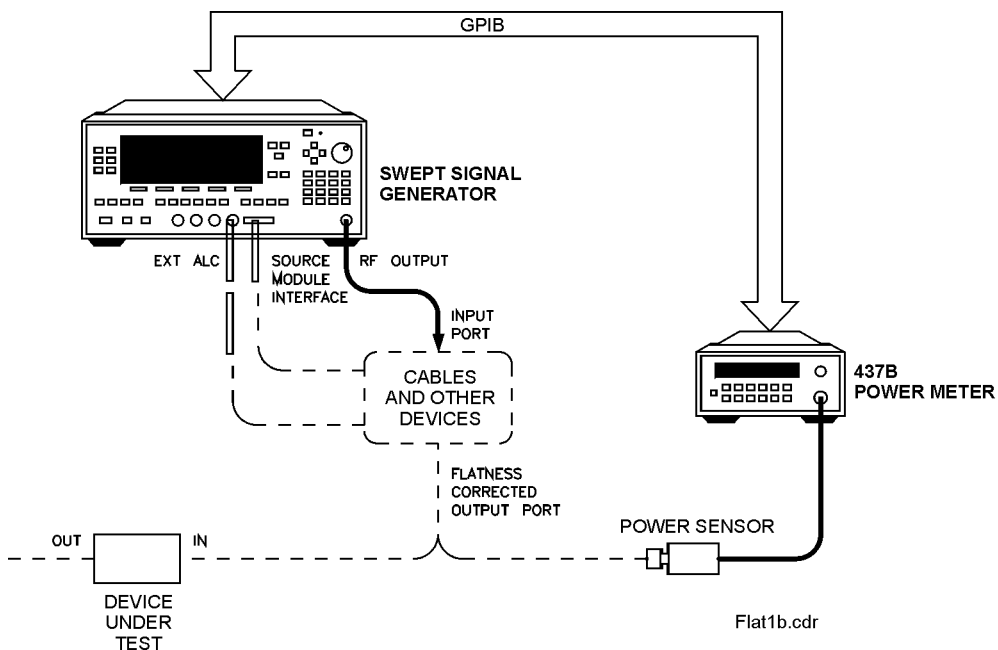

Figure 1-18. Creating a User Flatness Array Automatically
There are two basic front-panel methods of creating a flatness correction array. The first and quickest method is to use an HP/Agilent 437B power meter. Refer to Figure 1-18 for the setup. The second method is just as accurate, but requires a little more interaction between the operator and the instruments. Figure 1-19 shows the setup for the second method.
1. The equipment setup shown in Figure 1-18 assumes that if the setup has an external leveling configuration, the steps necessary to correctly level have been followed. If you have questions about external leveling, refer to “Externally Leveling the Swept Signal Generator”.